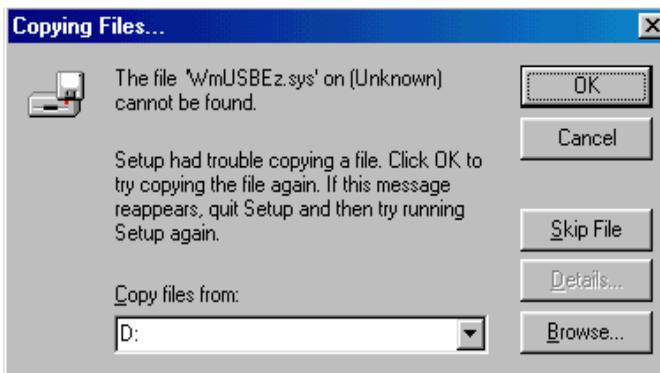

Figure 1-7. Copying .SYS File
10. Click **OK**. The **Copying Files** dialog box (Figure 1-7) appears.